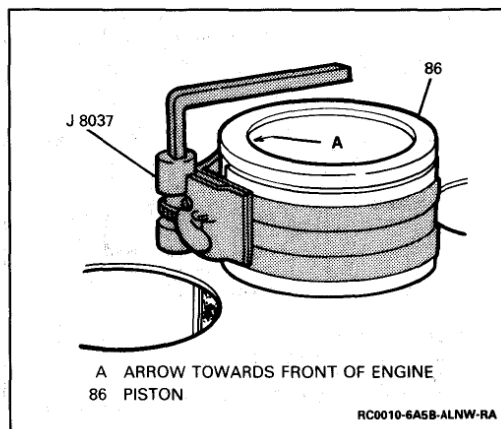

Figure 66 Piston Ring Compressor
Figures 66 and 67
4. J 8037 Piston ring compressor (Figure 66).
- Make sure that the arrow on top of the piston faces towards the front of the engine (Figure 66).
7. Connecting rod bearings (82). Refer to "Main Bearing and Connecting Rod Bearing Selection" in this section.